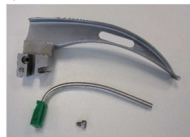

Figure 1
1) Disassemble the medical device (not ri-integral) (see Figure 1 example).
1) Disassemble the medical device (see Figure 1 example).